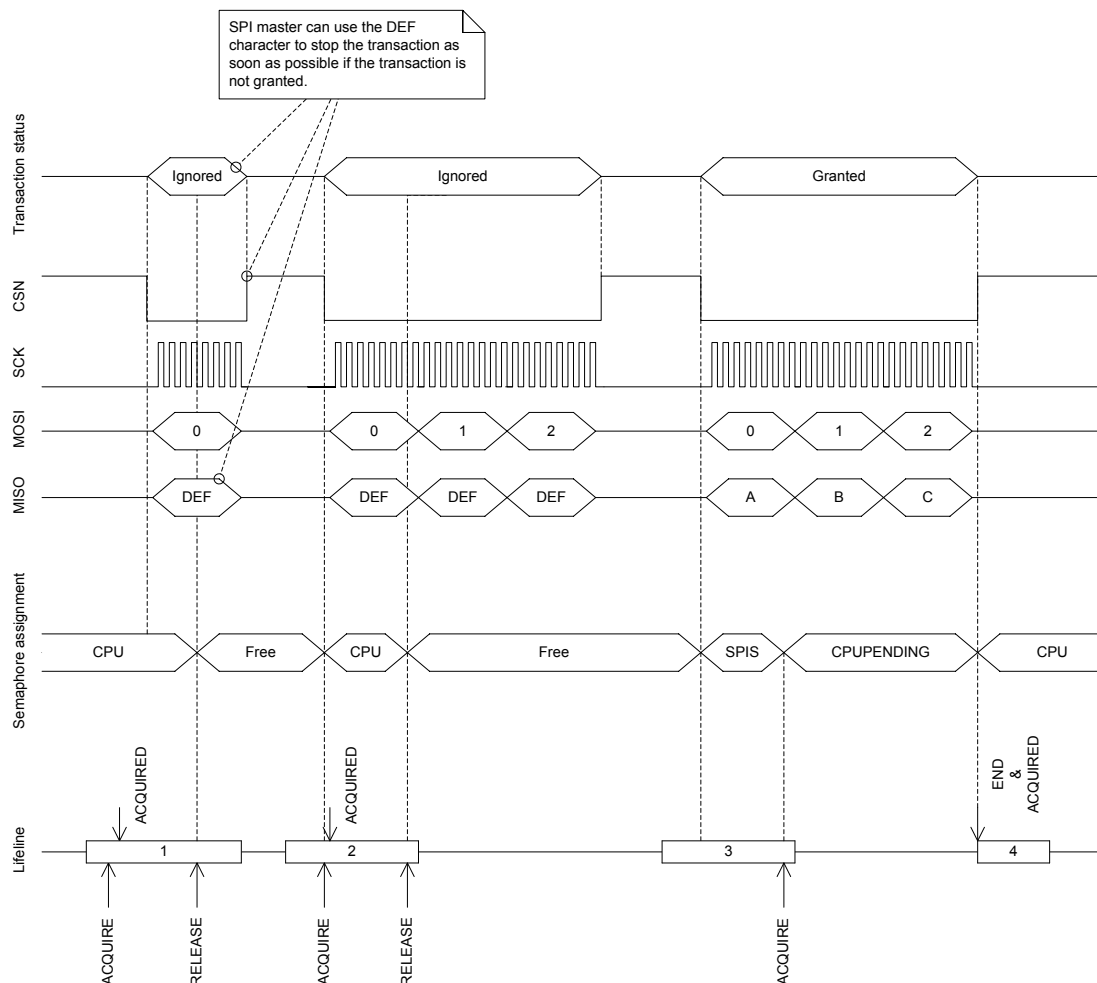

Figure 61: SPI transaction when shortcut between END and ACQUIRE is enabled
Before the CPU can safely update the RXDPTR and TXDPTR pointers it must first acquire the SPI semaphore. The CPU can acquire the semaphore by triggering the ACQUIRE task and then receiving the ACQUIRED event. When the CPU has updated the RXDPTR and TXDPTR pointers the CPU must release the semaphore before the SPI slave will be able to acquire it. The CPU releases the semaphore by triggering the RELEASE task. This is illustrated in Figure 61: SPI transaction when shortcut between END and ACQUIRE is enabled on page 139. Triggering the RELEASE task when the semaphore is not granted to the CPU will have no effect.
The SPI slave will try to acquire the semaphore when CSN goes low. If the SPI slave does not manage to acquire the semaphore at this point, the transaction will be ignored. This means that all incoming data on MOSI will be discarded, and the DEF (default) character will be clocked out on the MISO line throughout the whole transaction. This will also be the case even if the semaphore is released by the CPU during the transaction. In case of a race condition where the CPU and the SPI slave try to acquire the semaphore at the same time, as illustrated in lifeline item 2 in Figure 61: SPI transaction when shortcut between END and ACQUIRE is enabled on page 139, the semaphore will be granted to the CPU.